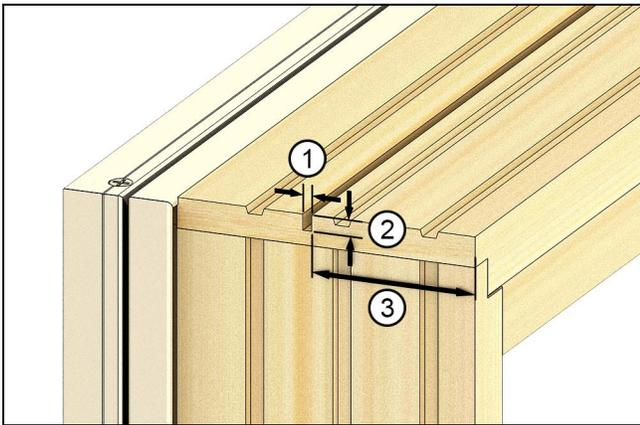

Figure 14
**1. MRF KERF:** If the units in your assembly have not been prepped for MRF and have no accessory kerf in the wood sides of the jamb, you will need to cut a 1/8" wide by 1/4" deep kerf. Use a circular saw and guide to cut the kerf 2 1/4" (32) from the edge of the frame. See Figure 14